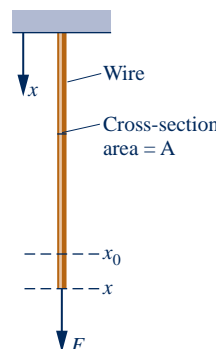

Fig. P2.40
2.40 As shown in Fig. P2.40, a steel wire suspended vertically having a cross-section area A and an initial length x_0 is